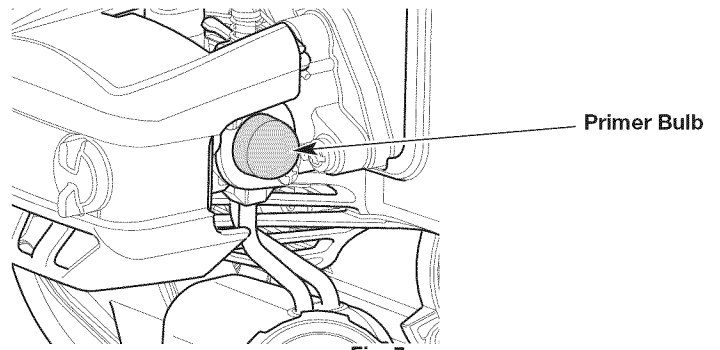

Fig. 7
3. Slowly press and release the primer bulb **15 times** (Fig. 7). If fuel cannot be seen in the primer bulb, press and release the primer bulb until fuel is visible.